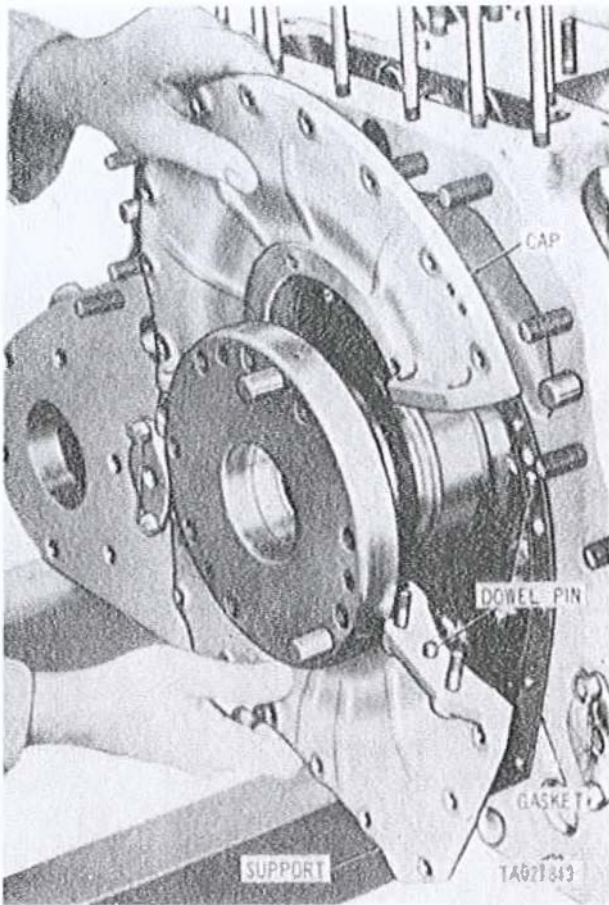

Figure 3-123. Removing or installing oil seal cap and housing.
g. Separate and remove oil seal cap and housing (fig. 3-123) and remove and discard gasket.